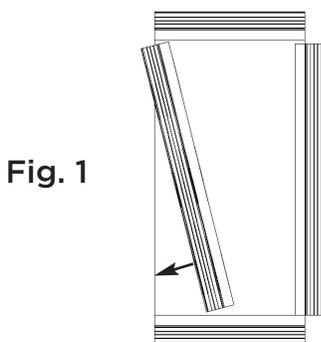

Fig. 1
3. Start jamb over wall at head and swing bottom into place. (Fig. 1)